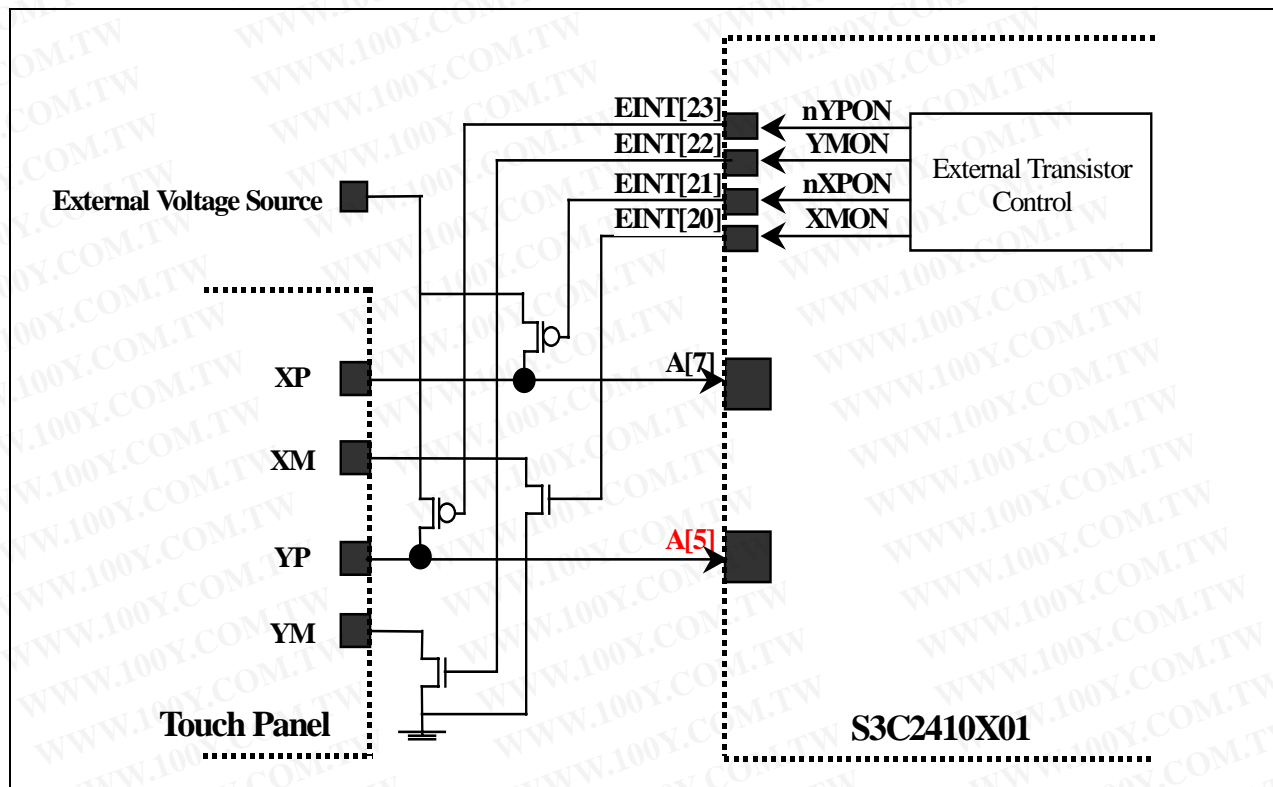

Figure 16-2. Example of ADC and Touch Screen Interface
The S3C2410X01 supports Touch Screen Interface, which consists of a touch screen panel, four external transistors, an external voltage source, AIN[7] and AIN[5] (see Figure 16-2).
1. Connect pads of the touch screen panel to the S3C2410X01 using external transistor (see Figure 16-2).